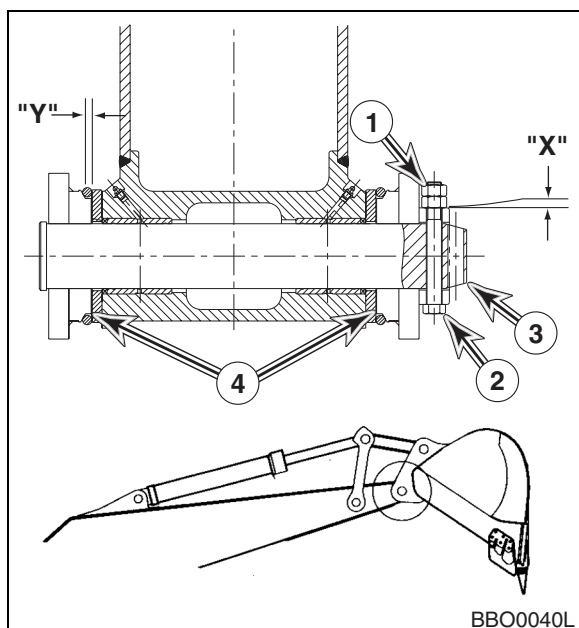

Figure 87
2. Force bucket to one side and check for end play (side-to-side) clearance under O-rings at attachment point. Total clearance should be 1 mm (0.04 in) between side face of boss and inside edge of ear bushing (Y, Figure 87). Too tight a fit (less than 1 mm (0.04 in)) can cause excessive wear while too much clearance may produce excessive noise and potentially hazardous slack control.
4. If an adjustment is required, remove two jam nuts (1, Figure 87) and bolt (2) from pin (3). Add or remove shims (4) as required. Use equal amount of shims on each side. Install bolt (2) and two jam nuts (1). Jam nuts must clear boss by 1 - 2 mm (0.04 - 0.08 in) at point (X).